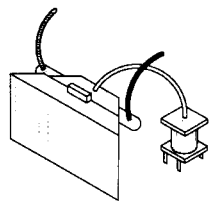
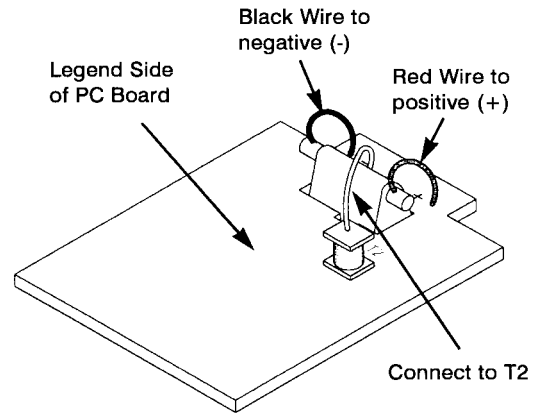

Figure 9
Figure 12
□ T2 (See Figure 9) - Insert the assembly as shown in Figures 10-12. Then, solder T2, the black wire, and the red wire to the PC board. (See Figure 12)